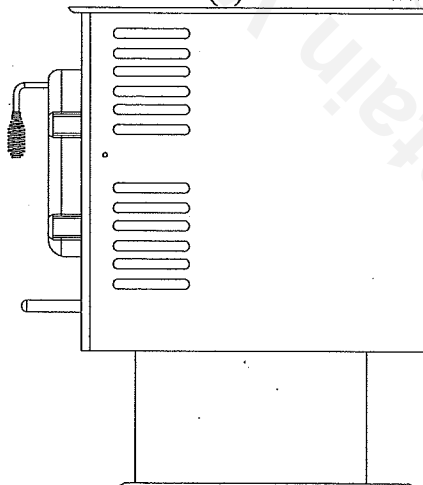

FIGURE 7: PEDESTAL INSTALLATION
2. Position the pedestal and attach the four (4) bolts. See FIGURE 7 for the pedestal.